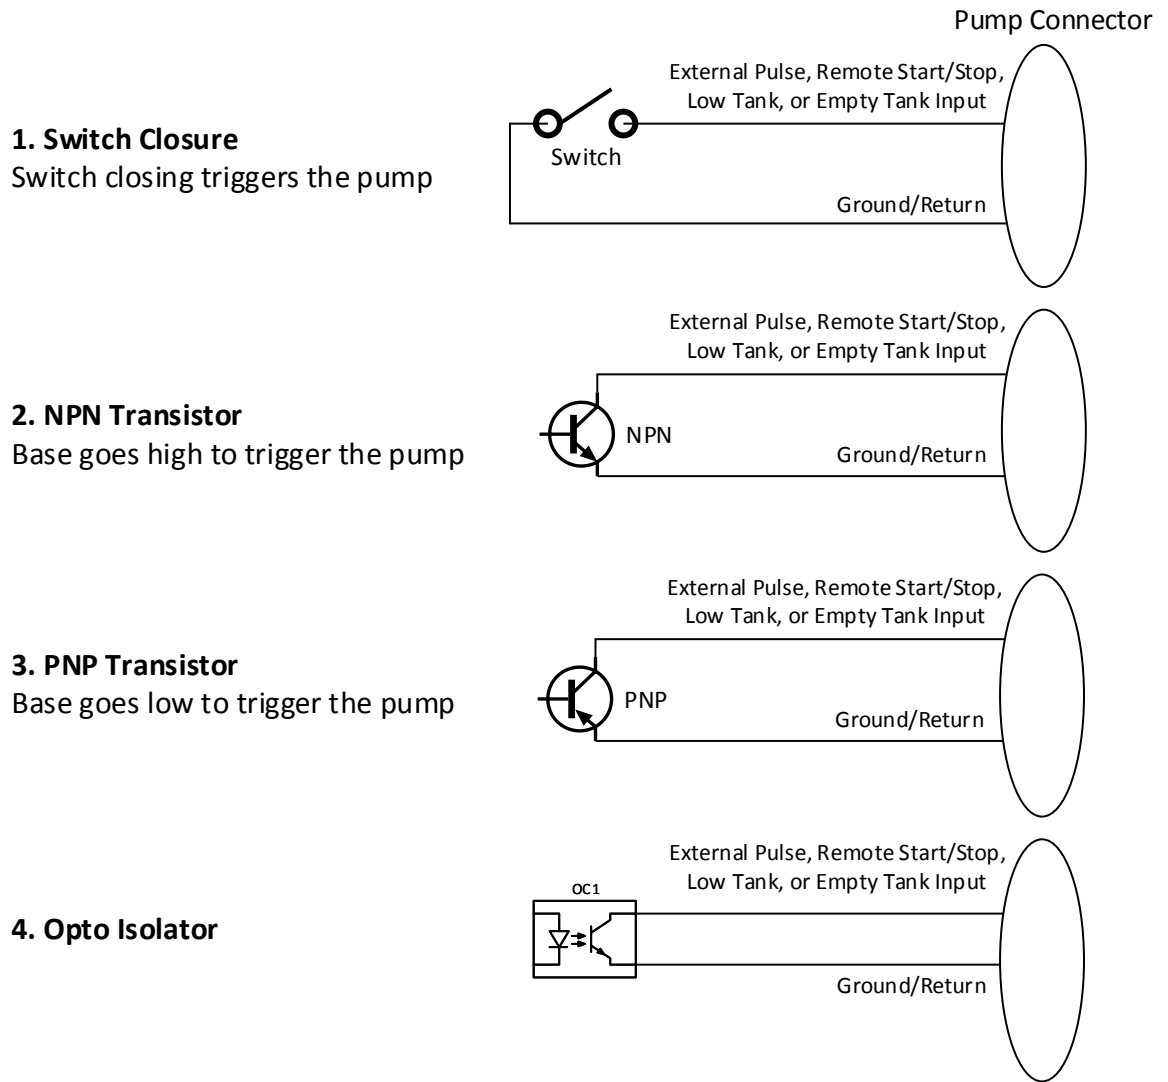

Figure 14: Methods of Externally Triggering the Pump
In External Pulse Mode, the pump relies on an incoming digital pulse to set the flow rate based on user settings. This allows for the pump speed to be set remotely by a controller such as the Liquitron DM7000, a PLC/SCADA system, or a flowmeter to dose a proportional amount of chemical to the process fluid. When set for volumetric output, the pump will accumulate up to 500 pulses and continue to run until the demanded chemical is delivered. The External Pulse Signal Pin 3 is normally 24 VDC and must be connected to the Ground/Return Pin 2 to trigger a pulse. The switch or transistor used must be capable of switching 24 VDC at 15 mA. The minimum time in the low impedance state (ON) is configurable between 1 msec and 60 msec. Refer to Figure 14 for methods of externally triggering the pump.
The PD7XX Pump is equipped with a Remote Start/Stop input that can be used with Manual Mode or External Pulse Mode. When the pump is powered on, it will run as normal with the Remote Start/Stop Input OPEN. Once the Remote Start/Stop Input is CLOSED, the pump will enter Remote Mode and require the Remote Start/Stop Input to be CLOSED to run. When the input is OPENED, the pump will stop and display a **Remote Start/Stop Icon** on the Home Screen. When the Remote Start/Stop Input is CLOSED again, the pump will resume operation. The Remote Start/Stop Signal Pin 1 is normally 24 VDC and must be connected to the Ground/Return Pin 2 to indicate a pulse. The switch or transistor used must be capable of switching 24 VDC at 15 mA. Refer to Figure 14 for methods of externally triggering the pump.